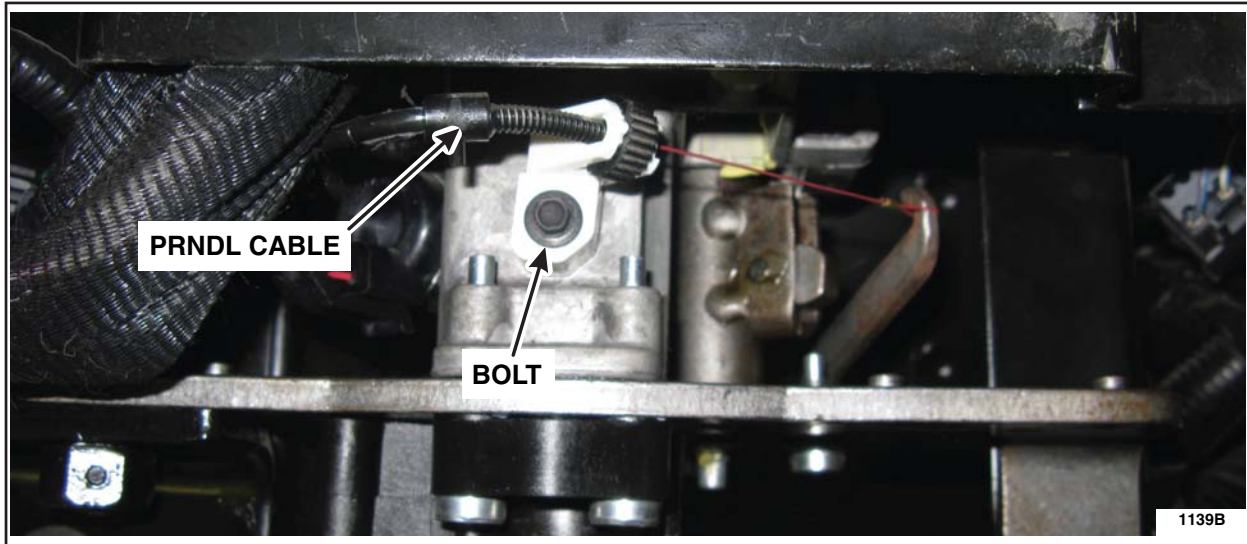

FIGURE 2
3. Remove the bolt and detach the PRNDL cable from the steering column. See Figure 2.
4. Attach the *new* PRNDL cable to the steering column and install the bolt. See Figure 2.